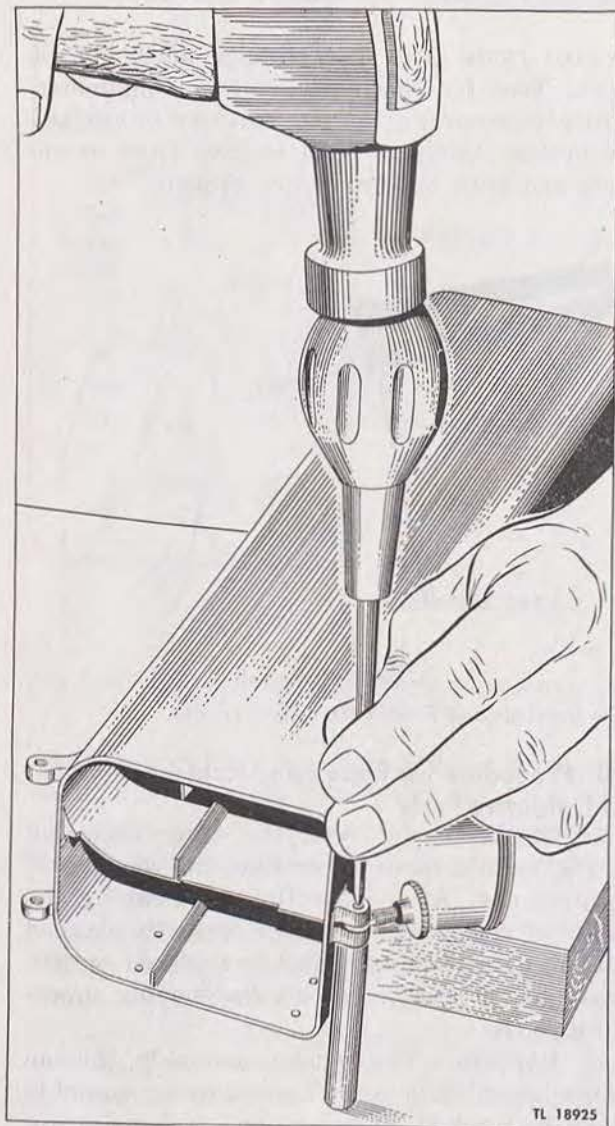

Figure 29. Removal of hinge pin, Radio Receiver and Transmitter BC-611-(\*).
**f. HOUSING ASSEMBLY.** A stripped thread on the hinge pin support may be repaired by drilling and reaming the support and inserting a threaded bushing. The hinge pin is tapered and must be driven out in direction as shown in figure 29. The lug on the housing must be properly supported both during removal and replacement of hinge pin.